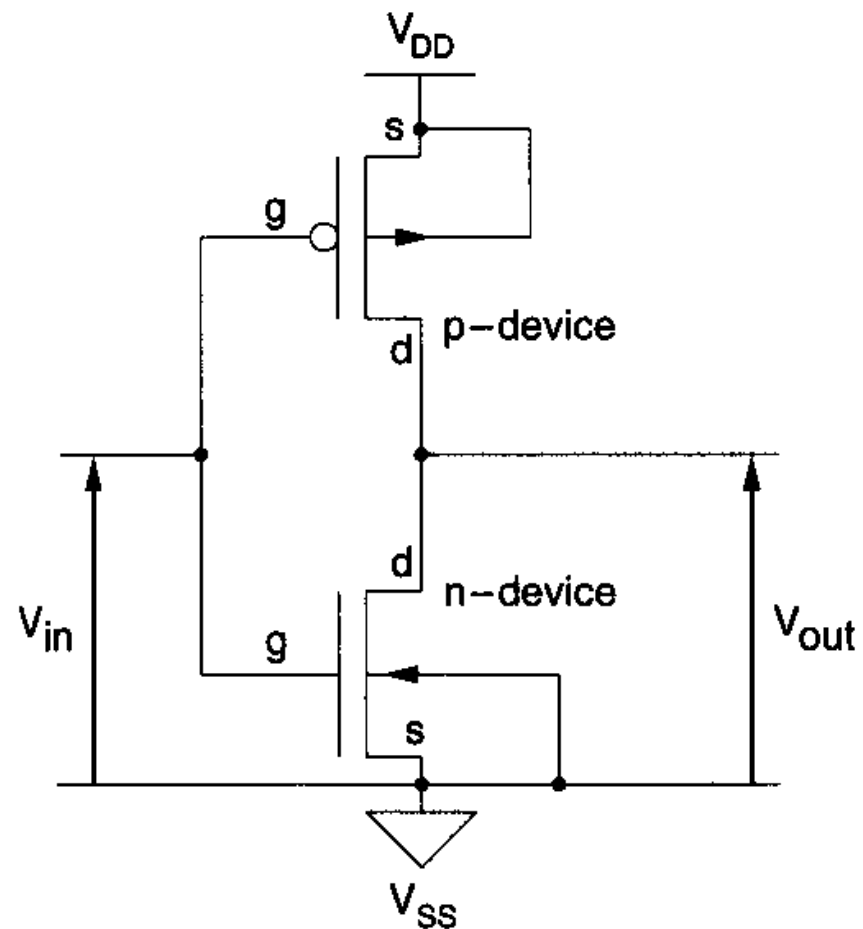

FIGURE 2.11 A CMOS inverter (with substrate connections)
- A CMOS inverter is realized by the series connection of a p-device and an n-device as show in Figure 2.11.